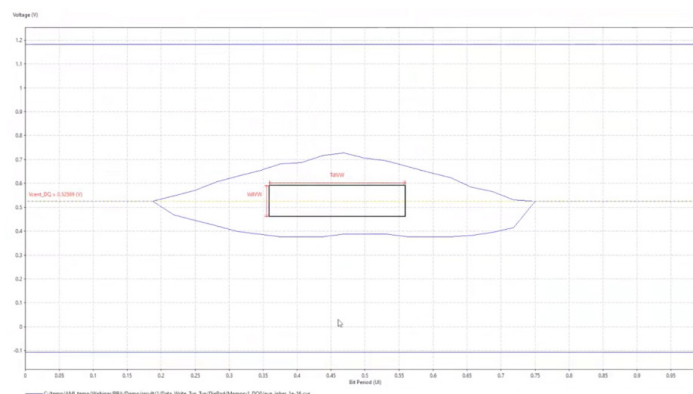

Figure 22: Eye mask plot for Example 2
- ▶ Click on the results to pull up the eye mask (Figure 22). It can be seen that the mask is actually passing at 4.4Gbps.